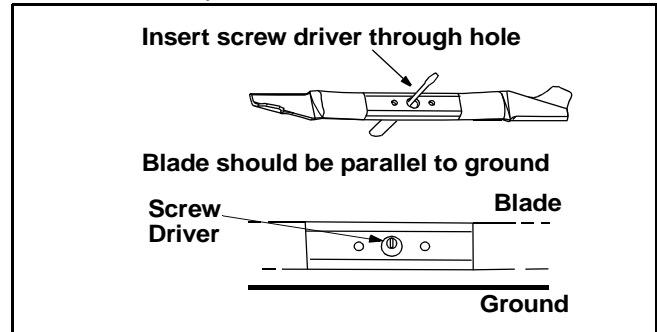

Figure 17
- The blade can be tested by balancing it on a round shaft screwdriver. See Figure 17. Remove metal from the heavy side until it balances evenly. It is recommended that the blade always be removed from the adapter for the best test of balance.